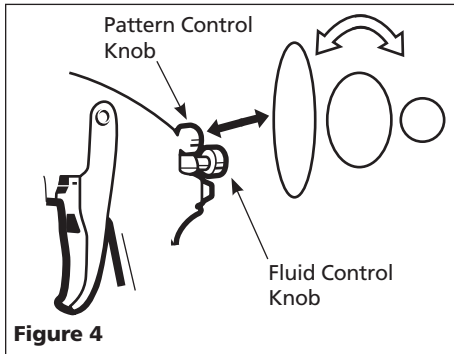

Figure 4
2. Set pattern size to desired shape. For full pattern, open pattern control knob by turning counterclockwise. For a round pattern, turn pattern control knob clockwise (See Figure 4).